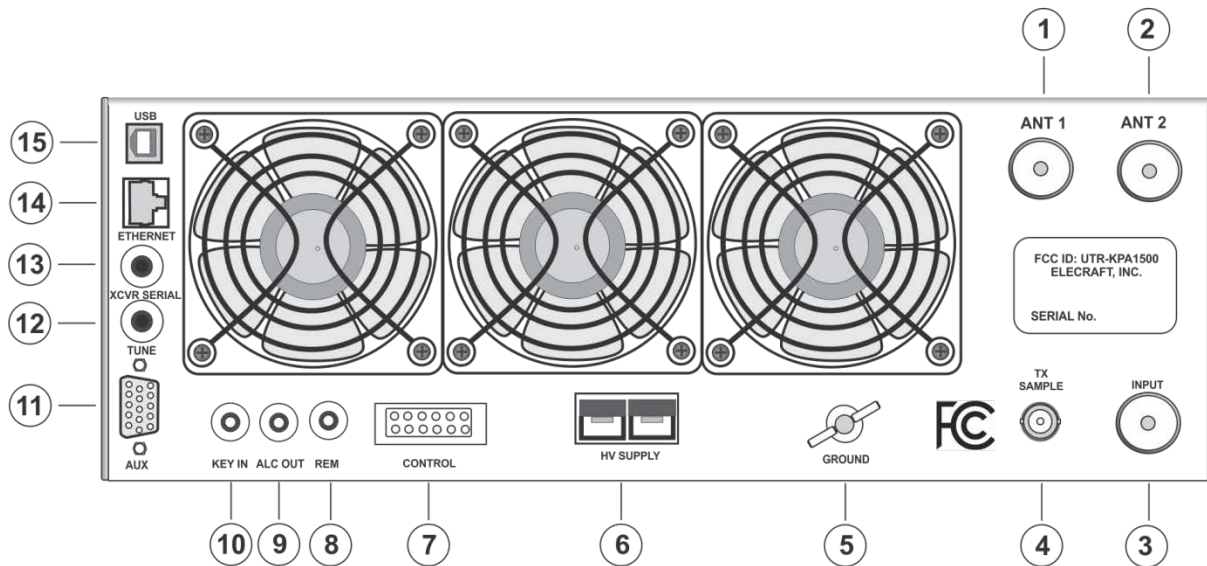
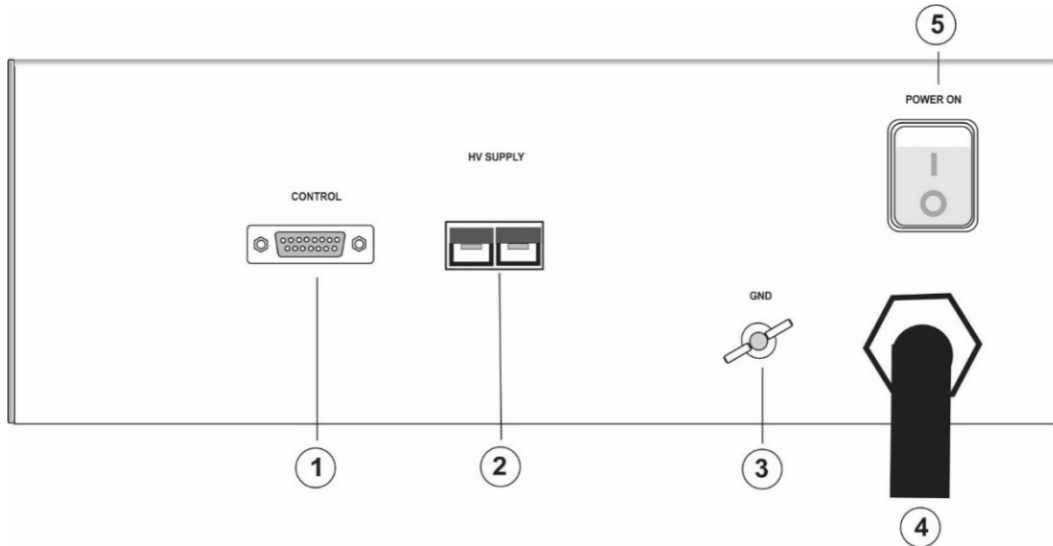

Figure 1. KPA1500 RF Deck Rear Panel.
Figure 2. KPA1500 Power Supply Deck Rear Panel.
The KPA1500 RF Deck rear panel is shown in Figure 1. The connectors and controls are described following the figure.
Connect the Power Supply to the RF Deck with the supplied 66” (167 cm) cable. Plug the Anderson PowerPole® connector into the HV SUPPLY connector ⑥ on the RF Deck rear panel (Figure 1) and the corresponding connector on the Power Supply ②, Figure 2. Observe the polarity; match the colors on the plug with the connectors.